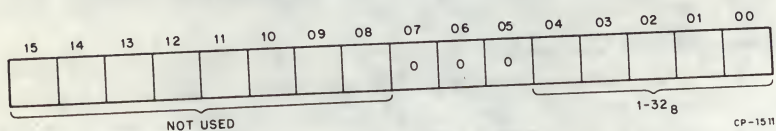

Figure 6 RXSA Format
**RX Sector Address (RXSA) (Figure 6)** — This register is loaded to indicate on which of the  $32_8$  sectors a given function is to operate. It can be addressed only under the protocol of the function in progress. Bits 8 through 15 are unused and are ignored by the control.